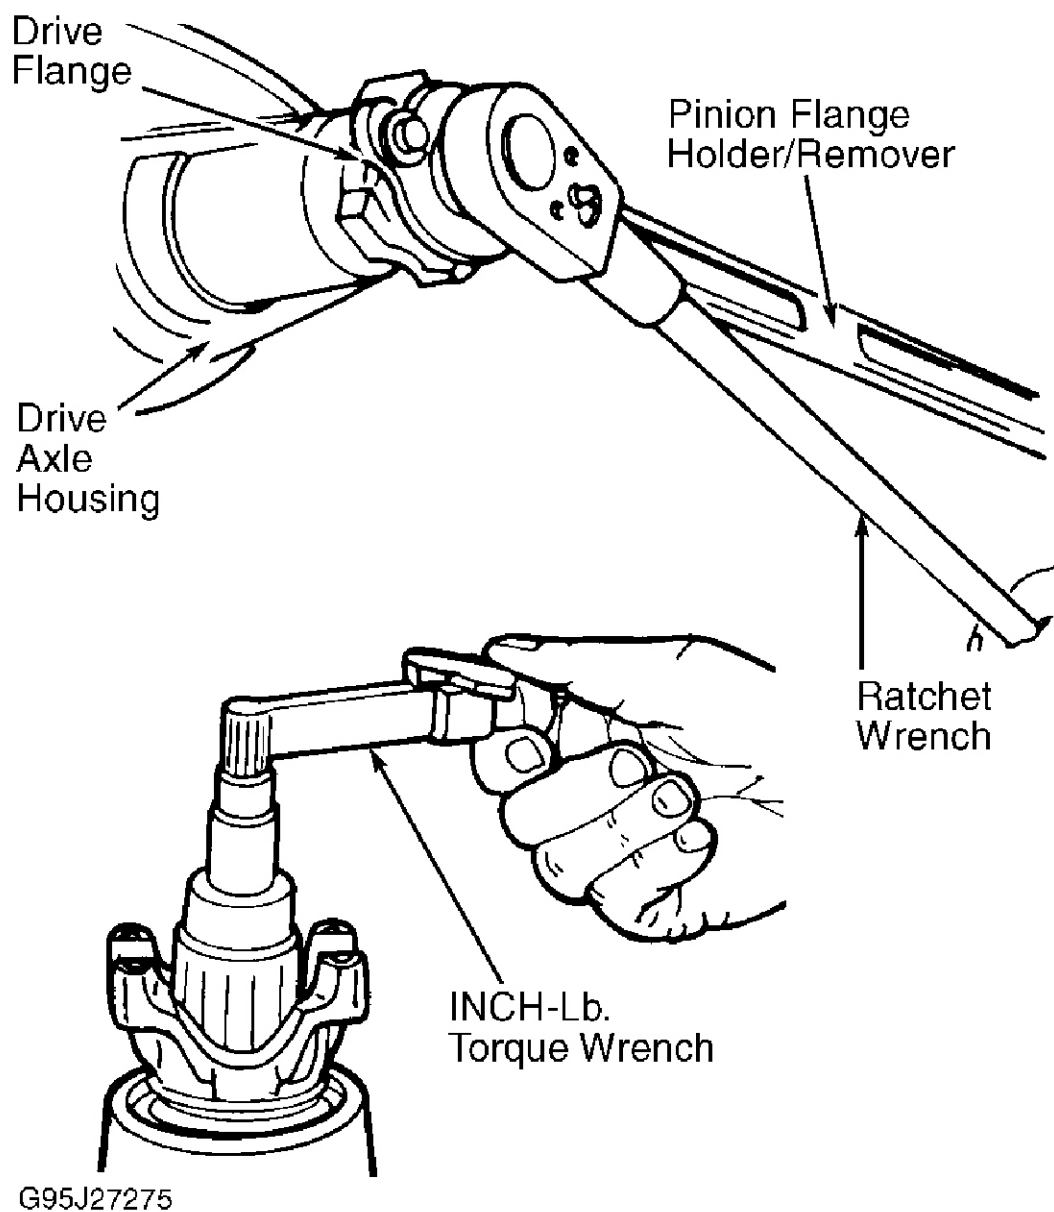

Fig. 8: Checking Drive Pinion Preload
5. Check preload by rotating pinion with INCH-lb. torque wrench. See **Fig. 8**. If necessary, remove small diameter shims to increase preload, or add shims to decrease preload.